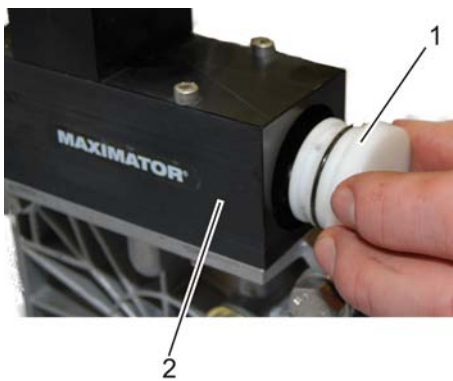

Fig. 37: Inserting the cap
- 12.** Insert cap (Fig. 37/1) into control valve housing (Fig. 37/2).